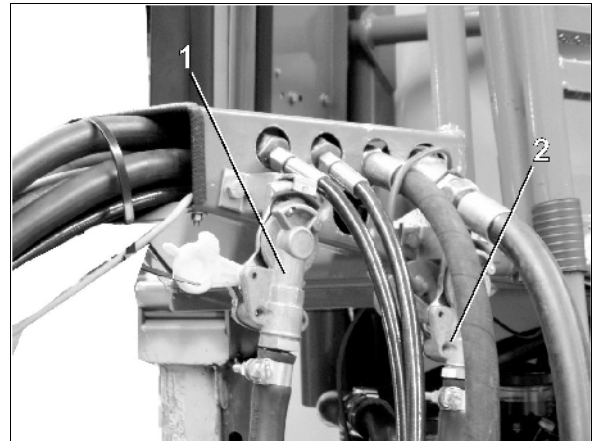

Fig. 30
1. Take the coupling claw of the brake hose (yellow) (Fig. 30/1) out of the dummy coupling.
4. Attach the coupling claw of the brake hose (yellow) (Fig. 30/1) as prescribed to the yellow marked coupling on the tractor.
5. Take the coupling claw of the second line (red) Fig. 30/2) out of the dummy coupling.
8. Attach the coupling claw of the second hose (red) (Fig. 30/2) as prescribed to the red marked coupling on the tractor.